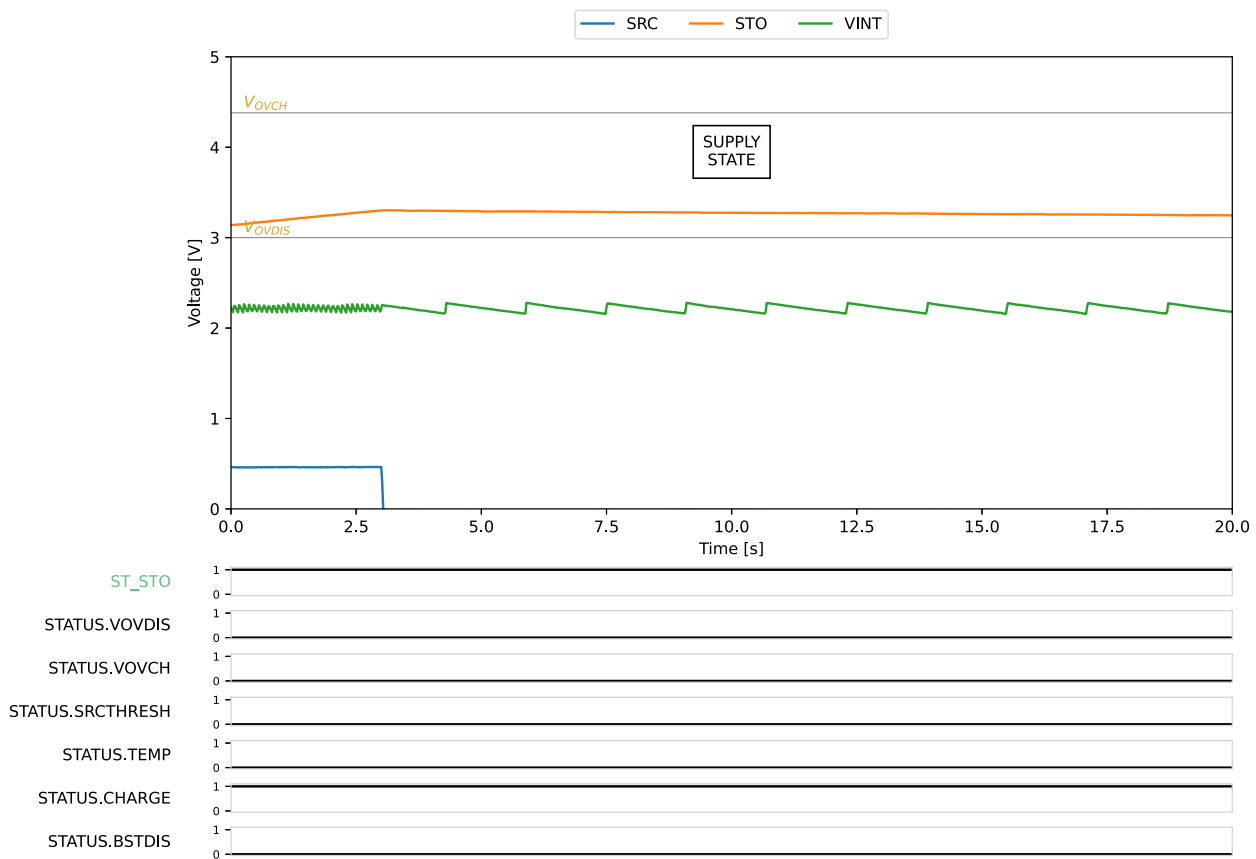
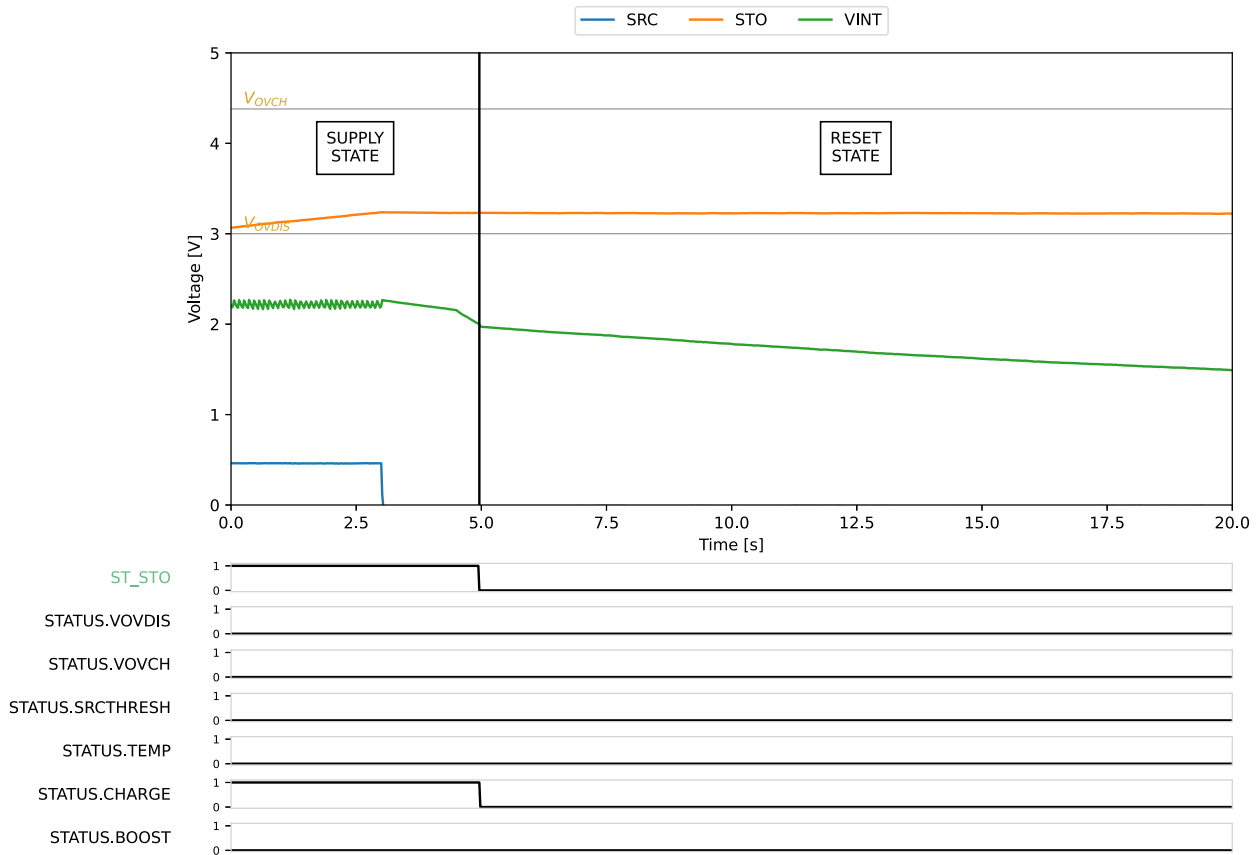

Figure 5: KEEP_ALIVE HIGH behavior
Figure 6: KEEP_ALIVE LOW behavior
- KEEP_ALIVE: is enabled on Figure 5 and disabled on Figure 6.
- KEEP_ALIVE = H (Keep-alive enabled, Figure 5): the AEM0090x switches to **SLEEP STATE**, so **VINT** keeps being supplied from the storage element connected to **STO**. The AEM0090x will be able to harvest again as soon as power is restored to the **SRC** pin. On the other hand, a small current is pulled from the storage element (I_{QSLEEP} , see Table 3).
- KEEP_ALIVE = L (Keep-alive disabled, Figure 6): **VINT** can only be supplied from the energy available on **SRC**, so as soon as the power source is switched off, **VINT** stops being supplied. The AEM0090x switches to **RESET STATE**, so that no current is pulled from the storage element. The stored energy is thus preserved. On the other hand, when power is restored to the **SRC** pin, the AEM0090x must perform a cold start to resume harvesting.